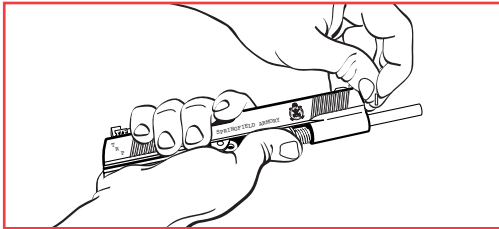

Figure 33-1
1. Push recoil spring assembly forward to expose a small, pin-sized hole. (*Fig. 33-1*)